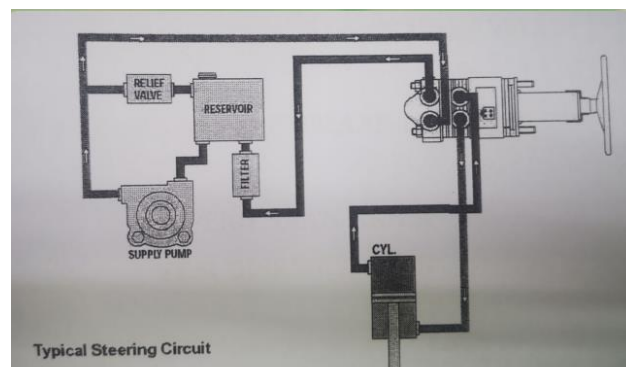

Figure 1
- b) Figure 1 shows a basic hydraulic system for typical steering uni. It consists of a reservoir, supply pump, a filter, relief valve and cylinder. Sketch and explain the function of each component and the operation principle of the system.